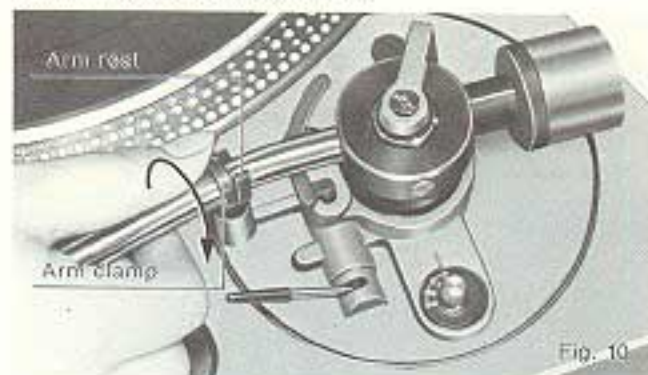

Fig. 10
3. Release the arm clamp (Fig. 10) and detach the tonearm from the arm rest to free the tonearm.
- ② Release the arm clamp. (Refer to Fig. 10)